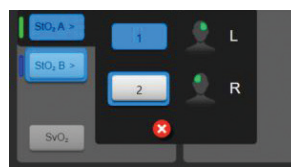

Figure 3
3. Sensor channel appears in the upper left of the parameter tile (Figure 2). Select channel. Then select the appropriate StO_2 channel from tile configuration menu (Figure 3).